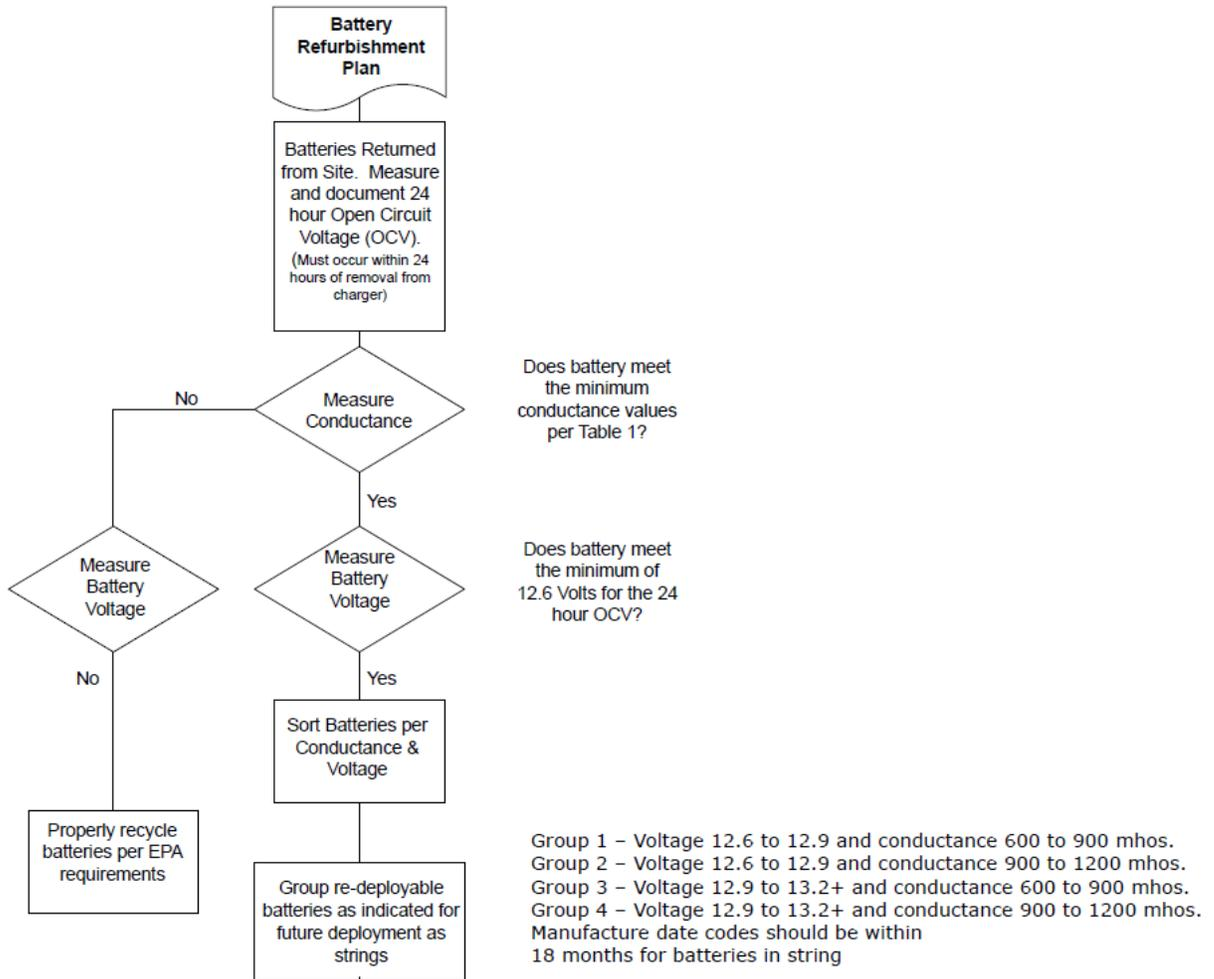

Figure 1: Battery Refurbishment Plan
3. Any battery above 12.6 VDC is a candidate for redeployment. Refer to Figure 1.